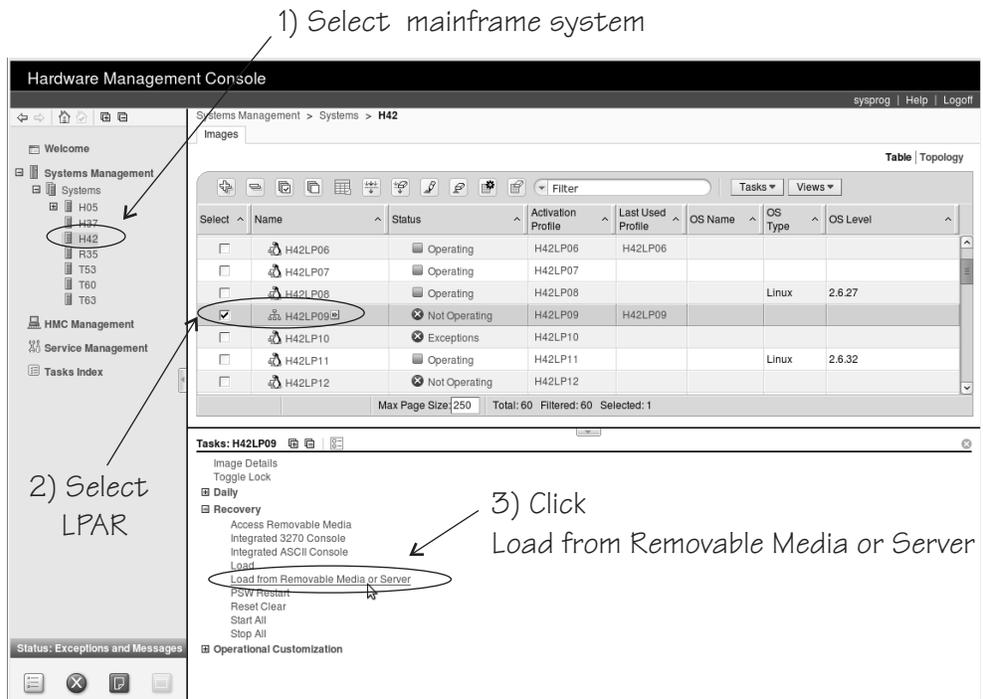

Figure 69. Load from Removable Media or Server on the HMC
3. In the **Tasks** area, expand **Recovery** and click **Load from Removable Media or Server** (see Figure 69 on page 360).